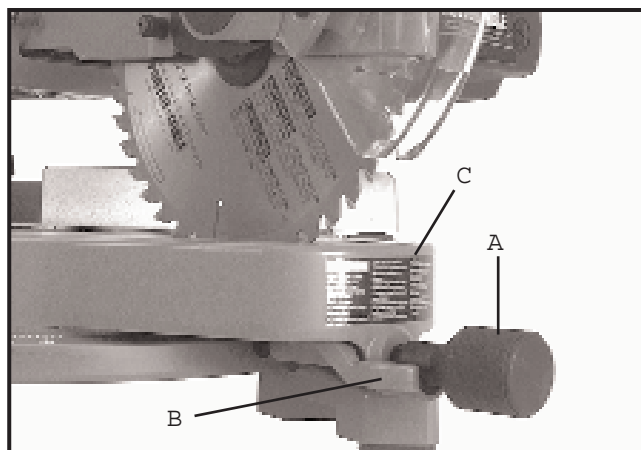

Fig. 12
1. Rotate locking knob (A) Fig. 12, counterclockwise to unlock. Depress lever (B) and rotate table (C) to the 0 degree straight out-off position, release lever (B) and tighten locking knob (A).